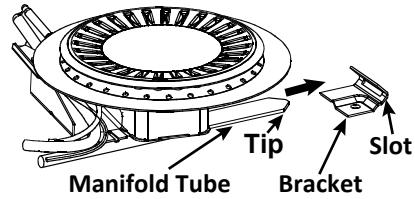
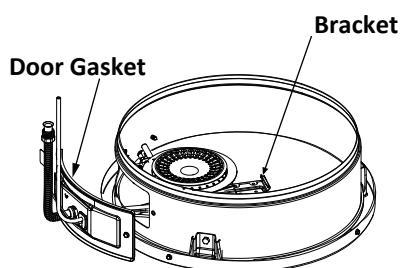

Figure 39: Inside view of combustion chamber.
Figure 40: Combustion Chamber
1. Turn off the gas supply to the water heater at the manual gas shut-off valve (Figure 39). This valve is typically located beside the water heater. Note the position of the shut-off valve in the open/on position, then proceed to turn it off.
3. Insert the conversion manifold assembly into the burner compartment, making sure that the tip of the manifold tube engages in the slot of the bracket inside the combustion chamber. See Figure 39 and Figure 40.
4. Inspect the door gasket and make sure there is no fiberglass insulation between the gasket and the combustion chamber (Figure 40).